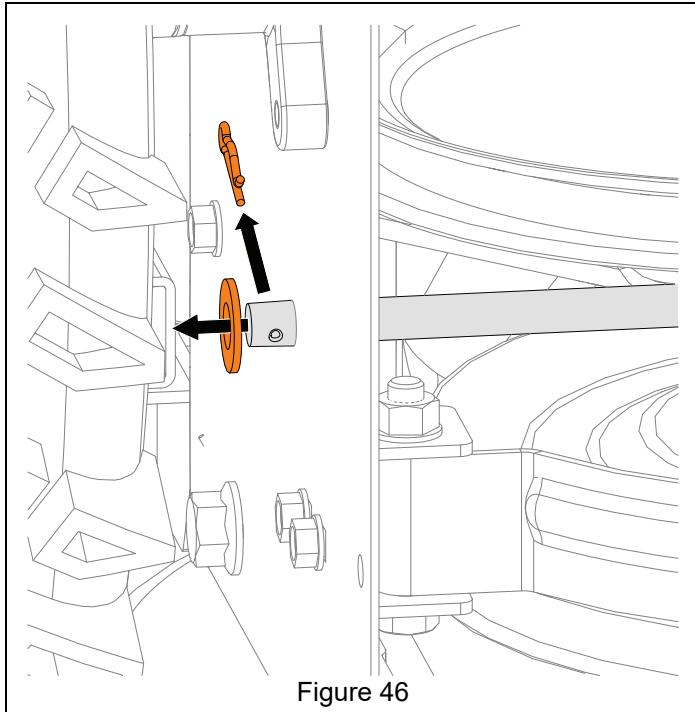

Figure 46
11. Remove hairpin and flat steel washer retaining swing gate pivot pin. See Figure 46.